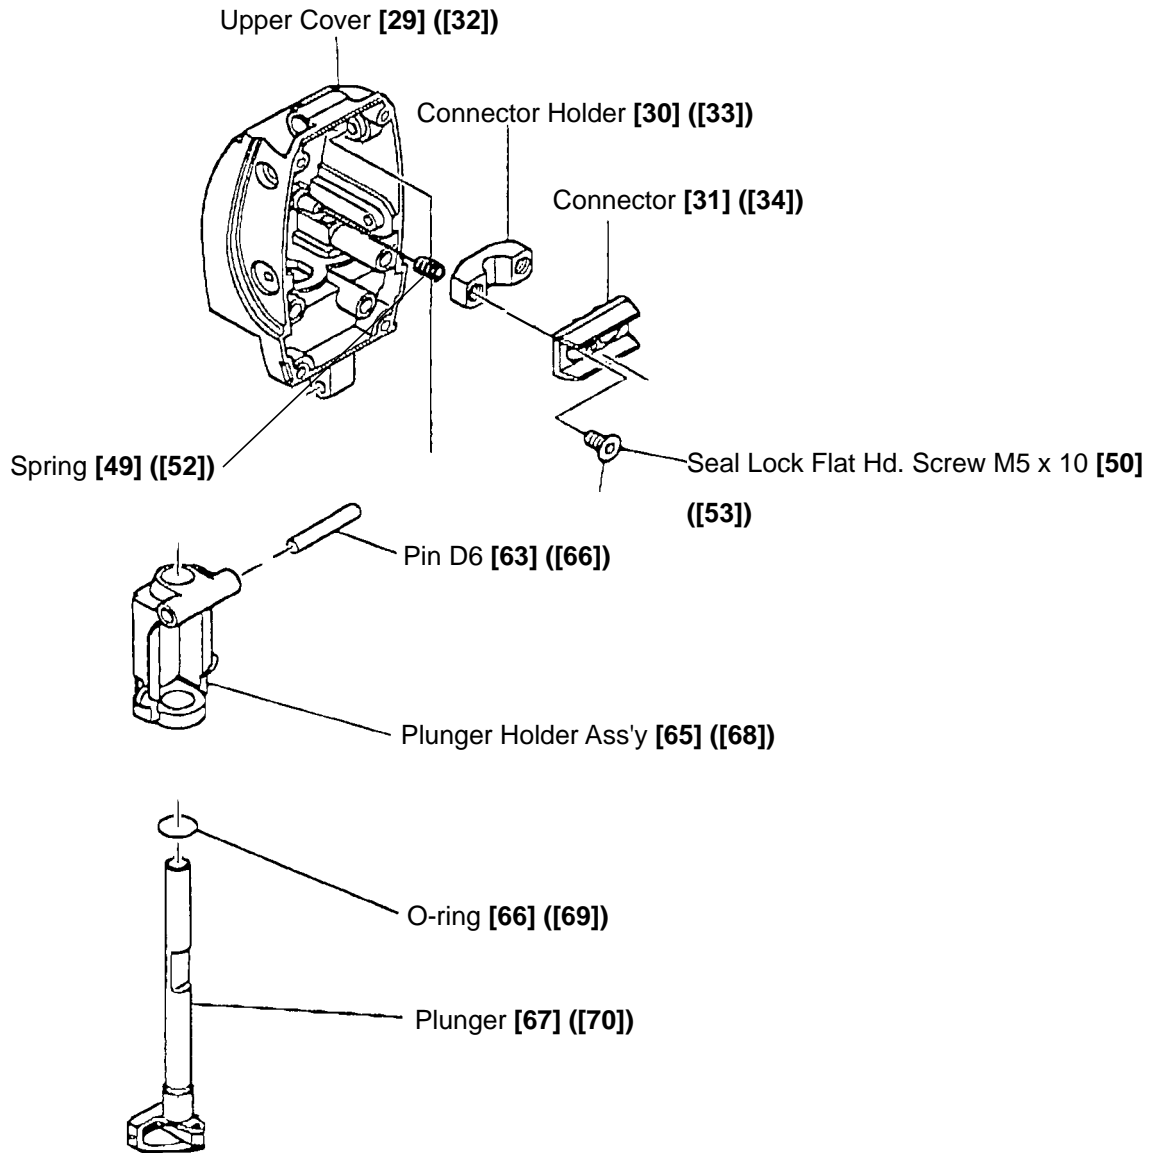

Fig. 9
(5) Disassembly of the Plunger [67] ([70]) and the Plunger Holder Ass'y [65] ([68]) (Fig. 9)